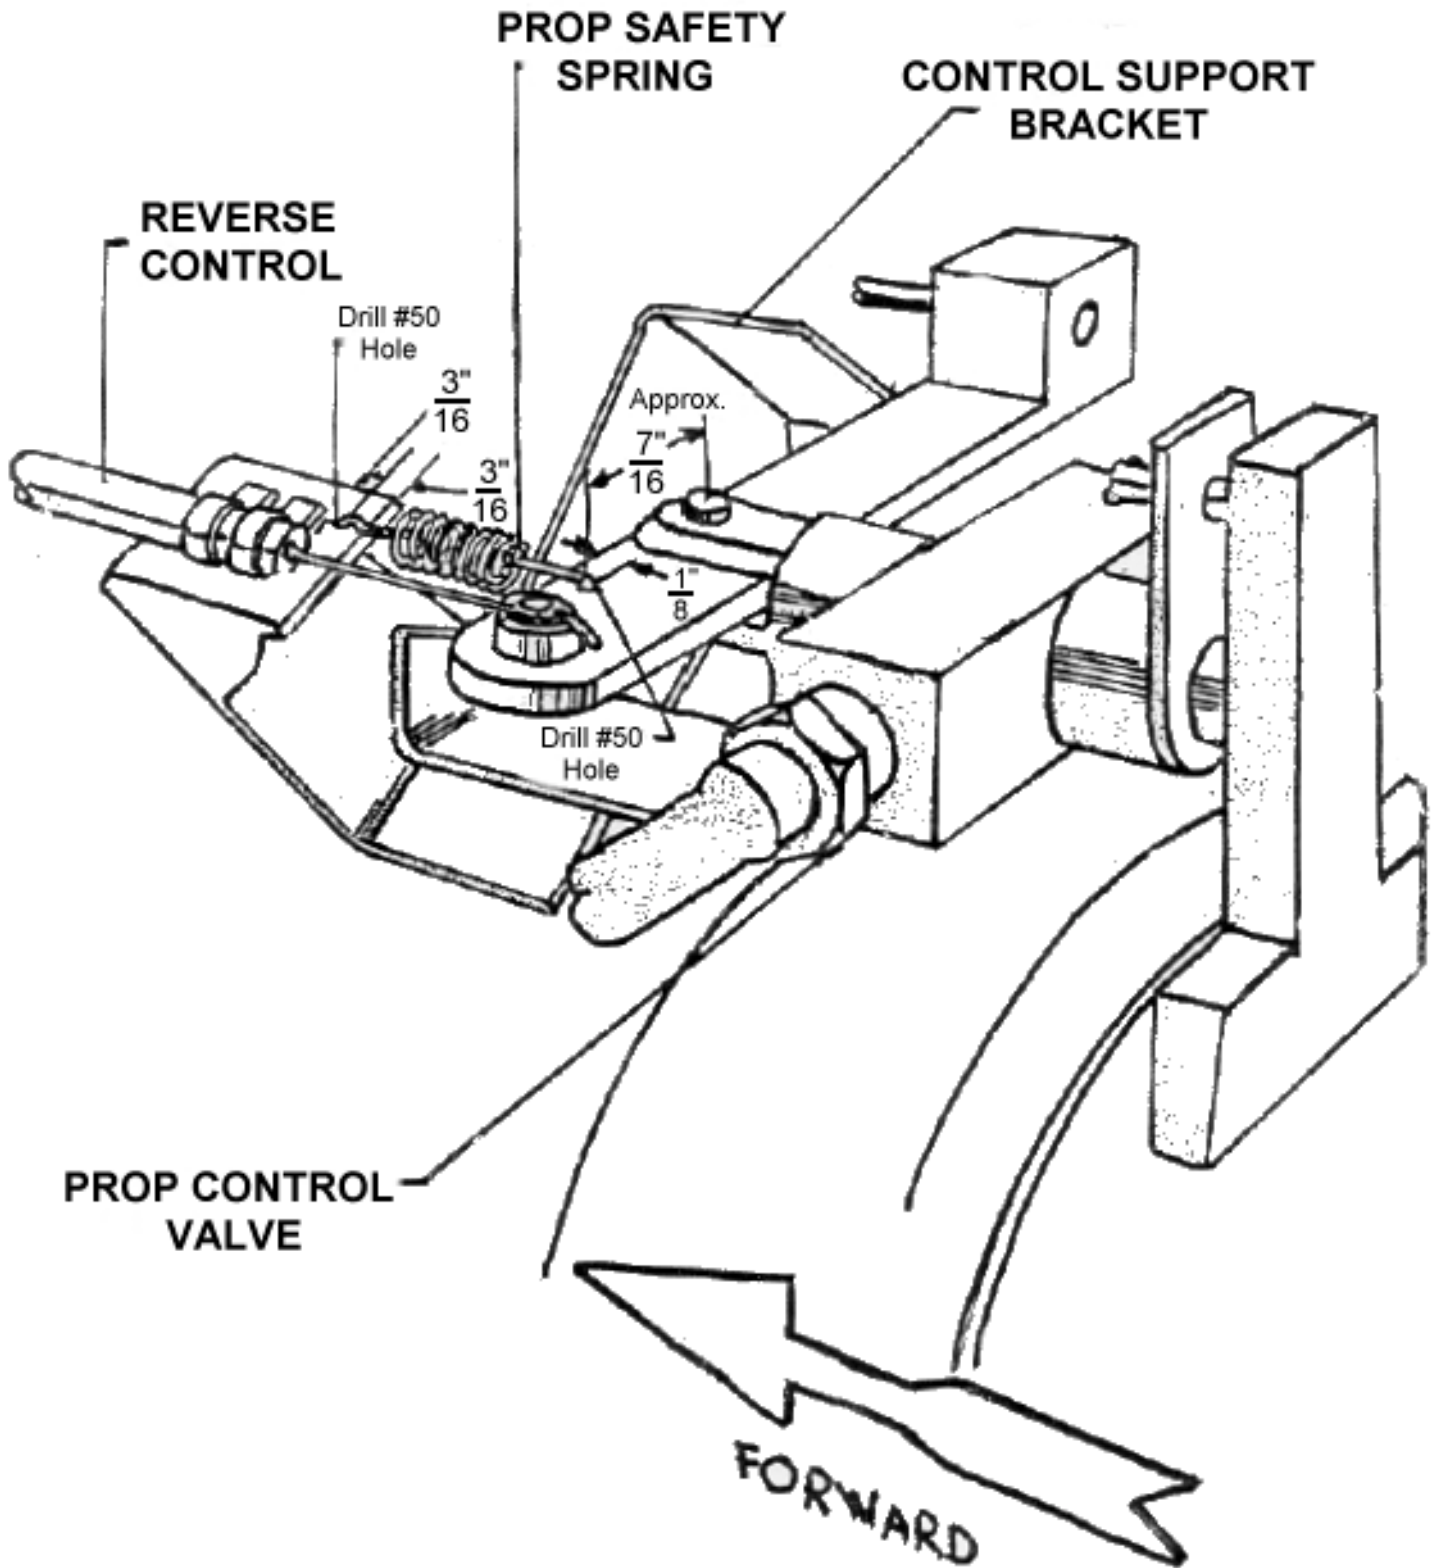

Figure 1
2. Drill hole with No. 51 drill in each of two locations shown on Figure 1.